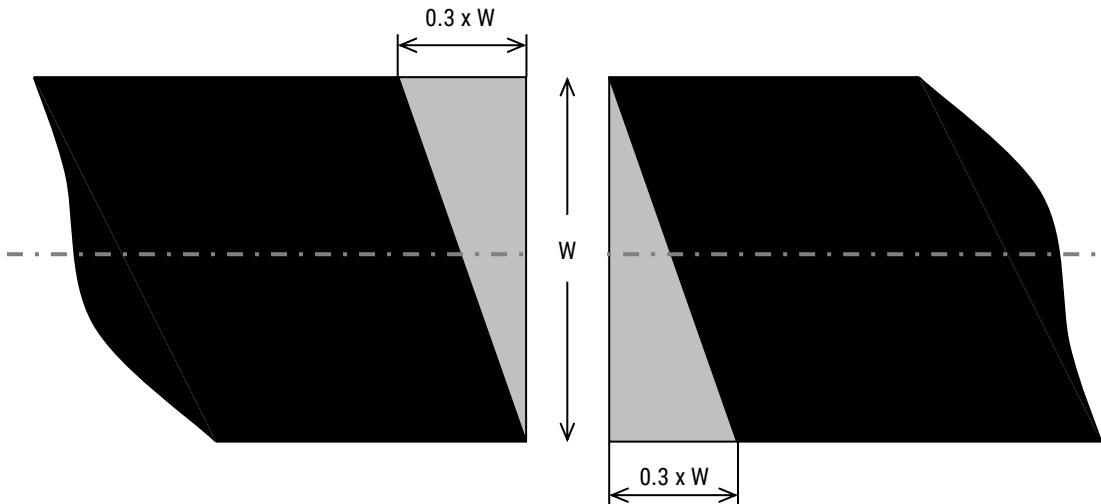

Figure 1
- splice allowance = splice length (L) + 0.3 x W where W = belt width, (refer to figure 1).